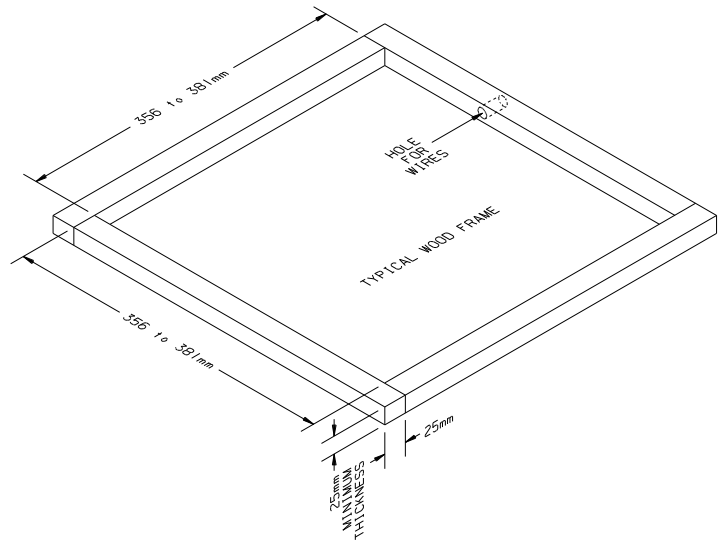

FIGURE 1
B. If a roof vent opening is not used, a new opening (See Figure 1) will have to be cut into the vehicle roof. A matching opening will also have to be cut into the interior vehicle ceiling. If the ceiling opening is carpeted, snagging could occur. After the opening in the roof and interior ceiling are the correct size, a framed support structure must be provided between the exterior roof top and interior ceiling. The reinforced framed structure must provide the following guidelines:
Airxcel, Inc. recommends that the spacing from the vehicle roof top to the interior ceiling top be no less than 25mm. A typical support frame is shown in Figure 1.